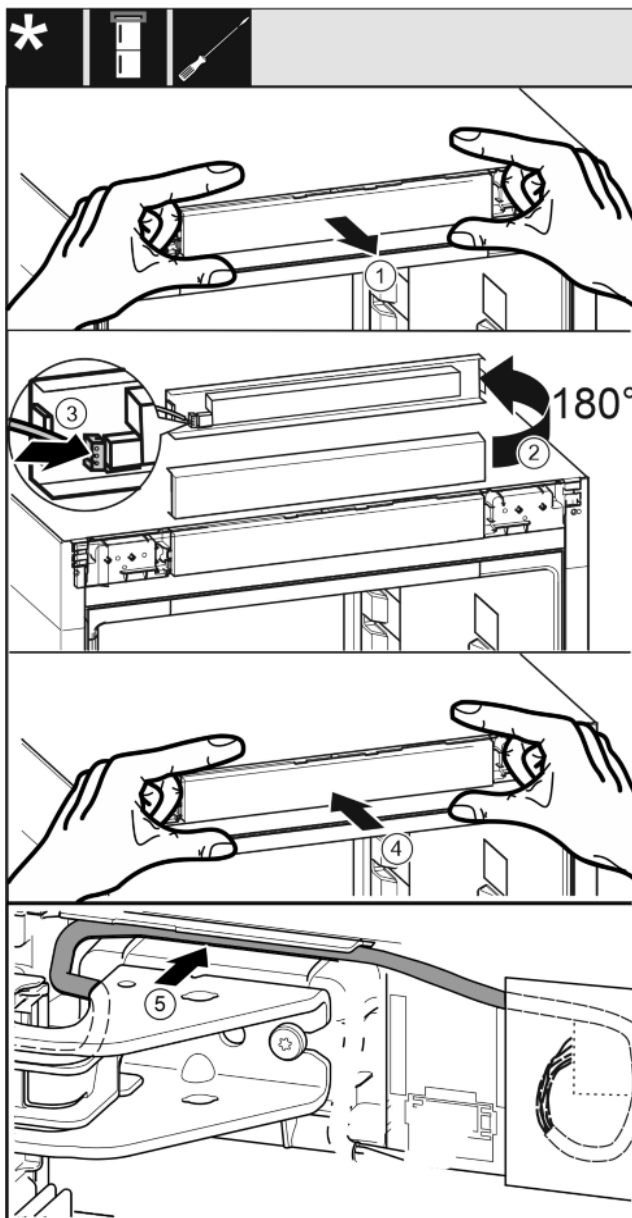

Fig. 34
- ▶ Take off the operating panel carefully. Fig. 34 (1)
- ▶ Turn the panel upwards through 180°. Fig. 34 (2)
- ▶ Engage the plug in the control panel. Fig. 34 (3)
- ▶ Latch the control panel back into the appliance. Fig. 34 (4)
- ▶ Carefully position the grey cable in the guide above the top bearing bracket.. Fig. 34 (5)